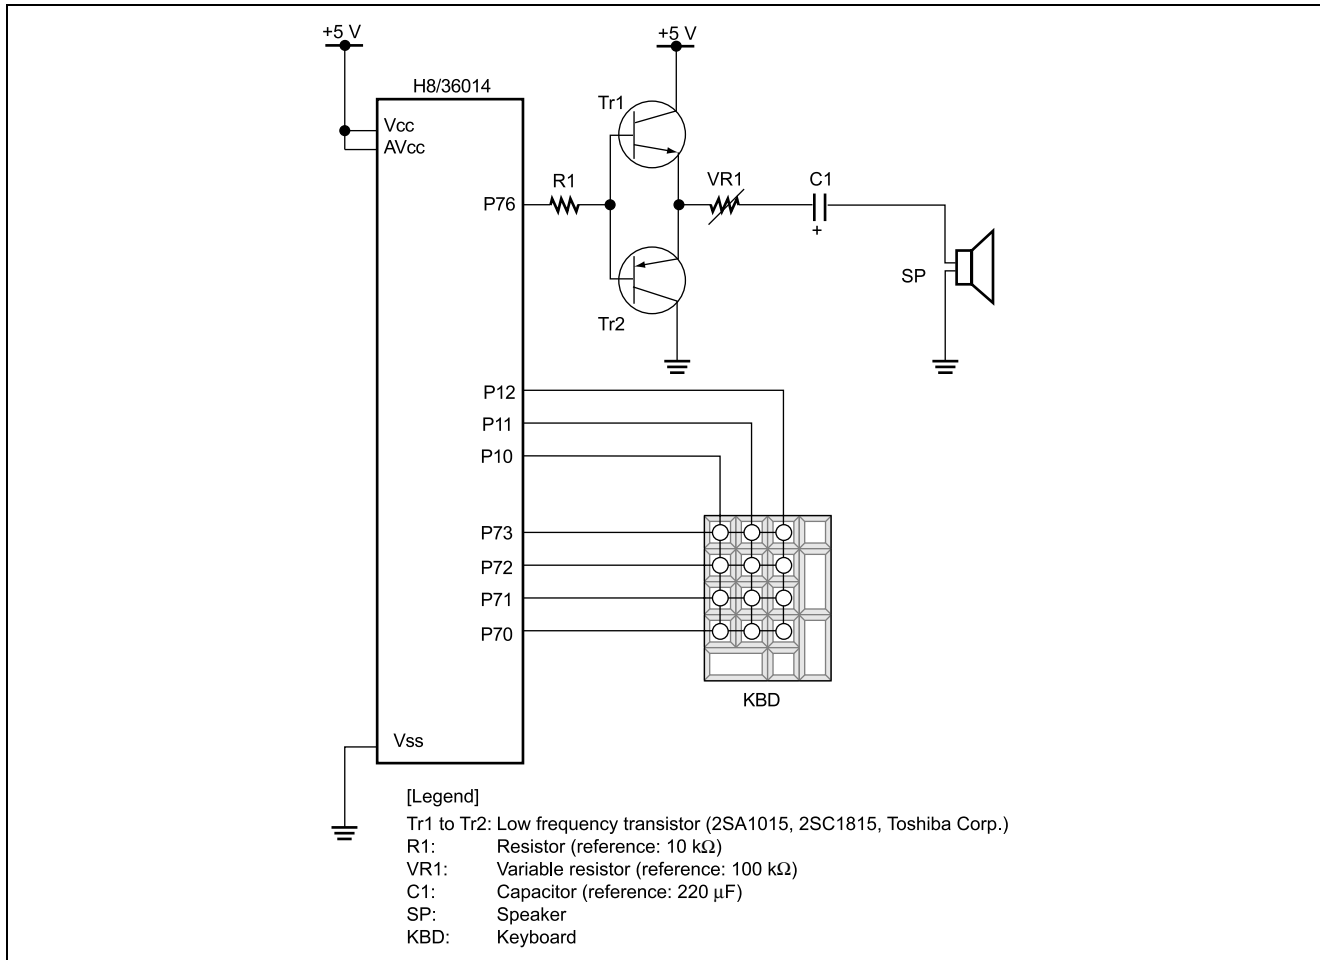

Figure 1.1 Hardware Configuration
1. Figure 1.1 shows the hardware configuration for an example of a musical note output circuit connection. As shown in figure 1.1, the keyboard is connected to the I/O port (pins P10 to P12 and P70 to P73).